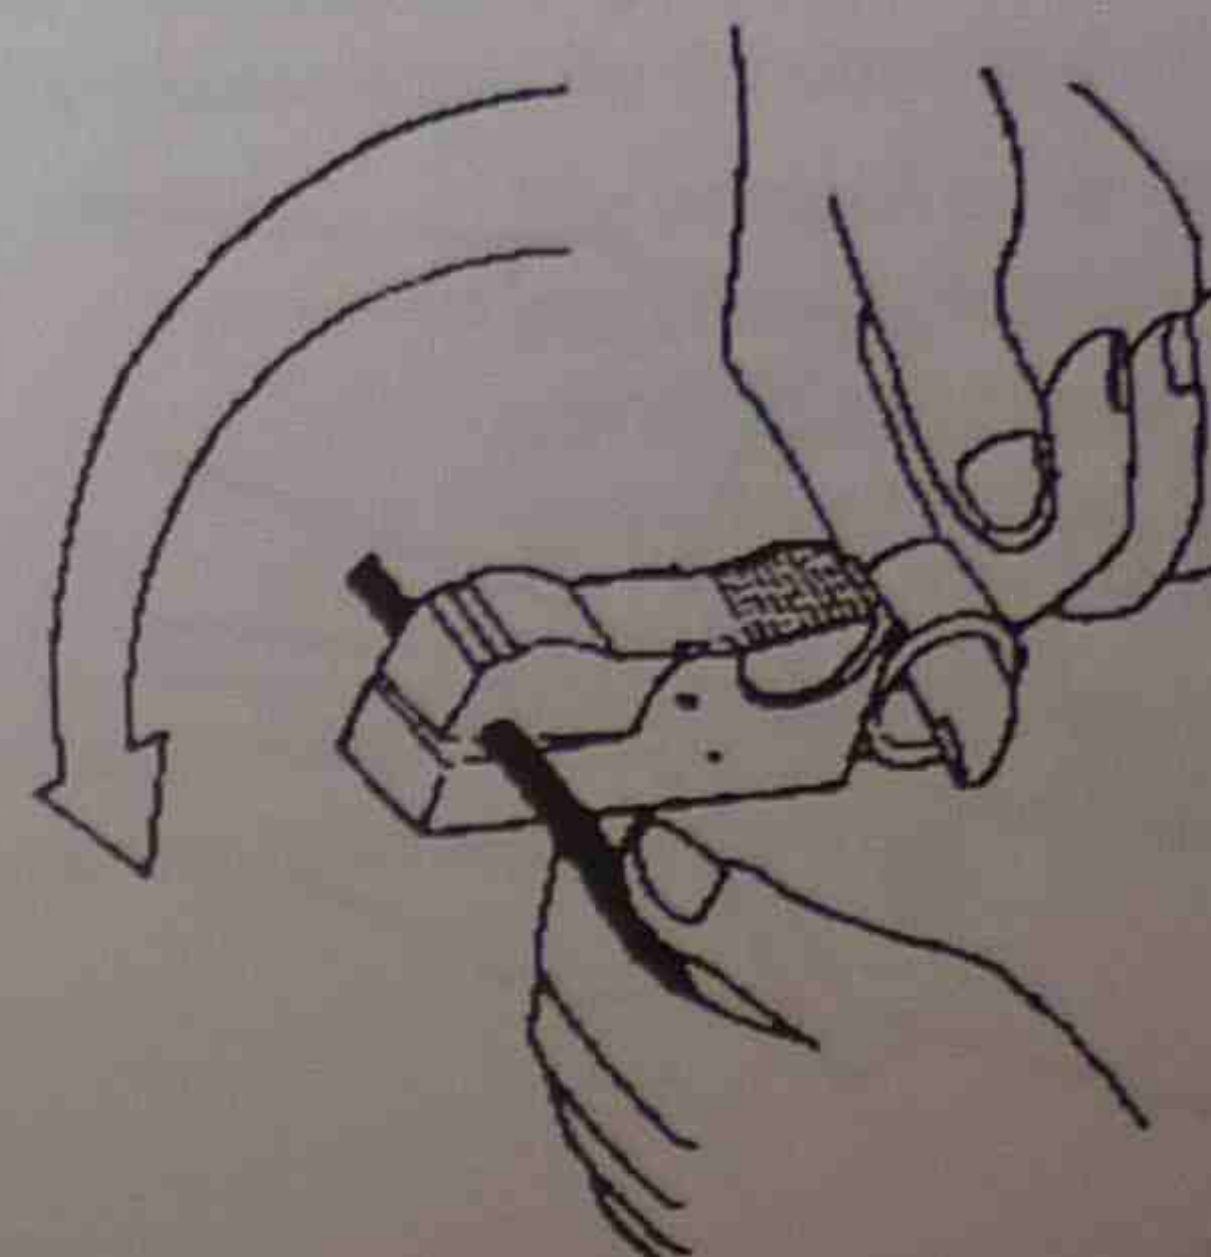

Figure 73 Stripping coaxial cable
1. Using suitable tools carefully prepare the cable to the dimensions shown in the manufacturer's instructions. If no instructions use Figures 73 and 74 as a guide. It is preferable to use a proprietary stripping tool as this removes sheath, shield and dielectric to the correct dimensions. Follow the tool manufacturer's instructions.